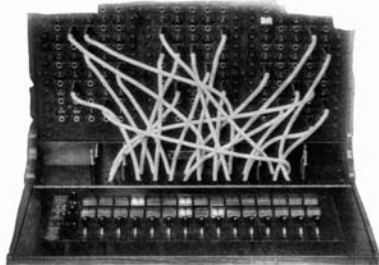

Fig. 14—Interlaced cords do not obscure clearing out signals.
2. The clearing-out signals are placed in the keyshelf where they are at all times plainly visible (See Fig. 14.) They cannot be hidden nor obscured by a screen of interlaced cords during busy hours, when most needed, as with switchboards having the common form of clearing-out drops. Hand restored clearing-out drops are also inconvenient to reach when covered by a heavy lacing of cords.